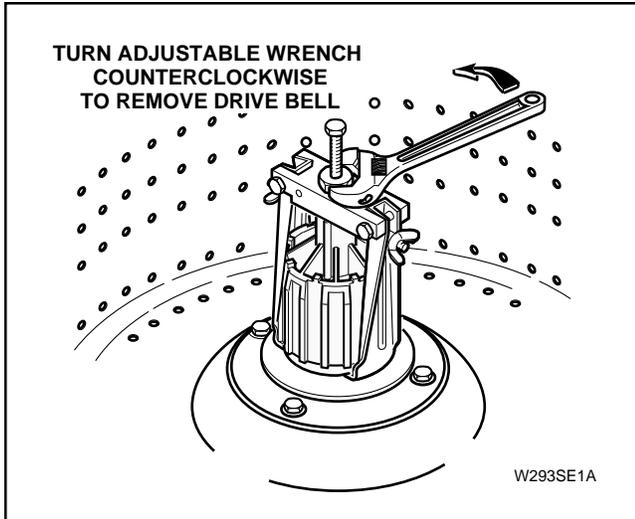

Figure 26
- Using an adjustable wrench, turn large nut on tool **COUNTERCLOCKWISE** to pull drive bell from transmission output shaft, *Figure 26*.